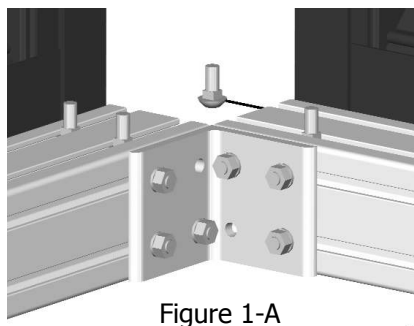

Figure 1-A
- Slide one carriage bolt into each inside slot of each rail at the corner joint (see Figure 1-A). There are 4 connection points per corner – top left, top right, bottom left, bottom right. .